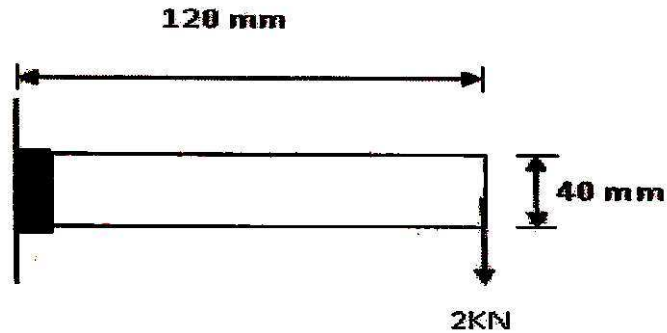

Fig. 4
- (b) A welded joint as shown in Fig. 4, is subjected to an eccentric load of 2 kN. Find the size of weld, if the maximum shear stress in the weld is 25 MPa. [8]